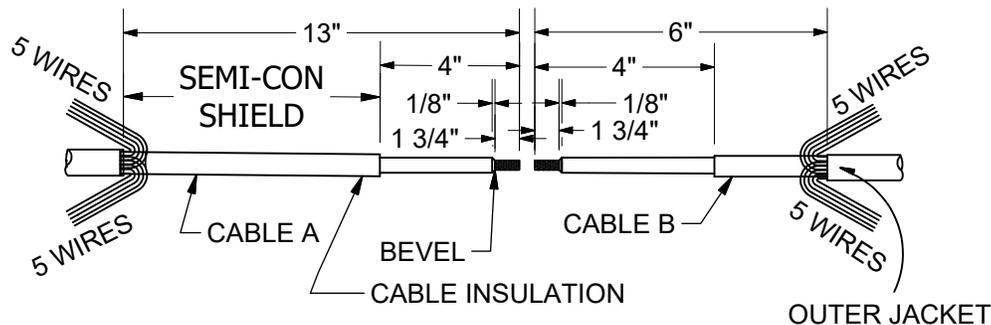

Figure 2
4. For single phase cables, train the concentric wires in two bundles each side, five wires per bundle. See Figure 2. For three phase cables, train the concentric wires in one six wire bundle.
6. Strip cables for splicing per Figure 2, clean cables - DO NOT USE SILICONE SPRAY ON CABLES OR SPLICE BODY.